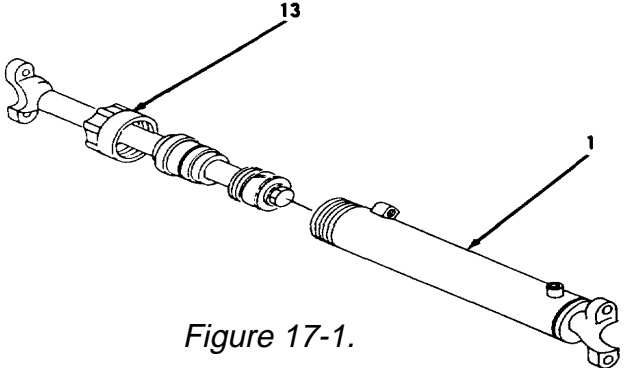
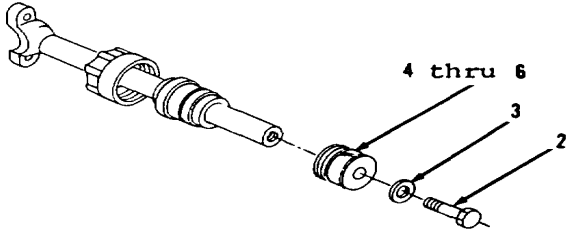
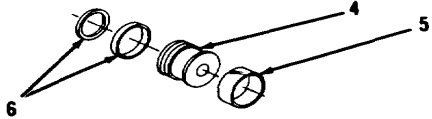
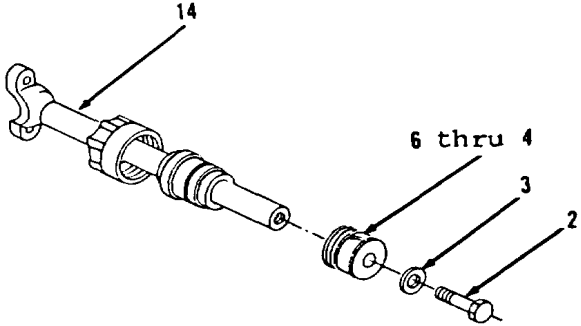

Figure 17-1.
Figure 17-2.
Figure 17-3.
Figure 17-2.
1. Using chain wrench, loosen crown (13, Figure 17-1).
2. Remove cylinder (1).
3. Remove bolt (2) and washer (3, Figure 17-2).
4. Remove items 4 thru 6 as an assembly.
5. Remove ring (5) and seal assembly (6) from piston (4, Figure 17-3). Discard seal assembly (6).
5. Using seal expander, install new seal assembly (6) and ring (5) on piston (4, Figure 17-3).
- 6. Install items 6 thru 4 as an assembly on rod assembly (14, Figure 17-2).
- 7. Install washer (3) and bolt (2). Apply thread lubricant to threads of bolt (2) and tighten to 800 ft-lb torque.
- 8. Using hydraulic fluid, lubricate outside of head (7), inside of crown (13) and inside of cylinder (1, Figure 17-1).
- 9. Install cylinder (1).